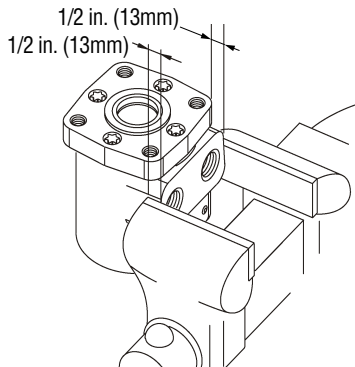

Figure 5-20, Motor Port Clamping
1. Remove the motor from gearbox. Clean the outside of the motor. Service the motor in a clean, dust-free work area. When clamping, use a protective device on the vise such as special soft jaws, pieces of hard rubber or board. (Figure 5-20)
2. Place the motor in a vice and clamp across the edge of the flange with output shaft up. (Figure 5-20) Do not clamp on the side of the housing.